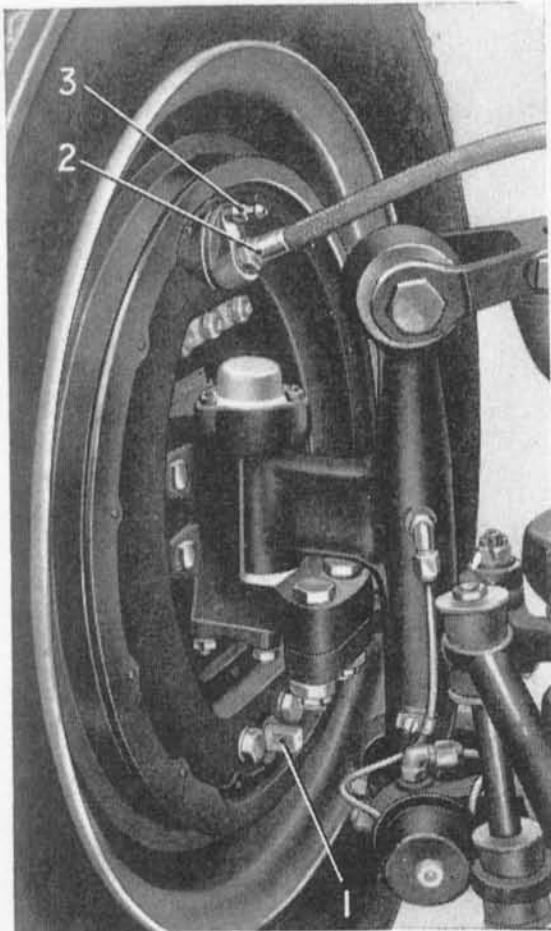
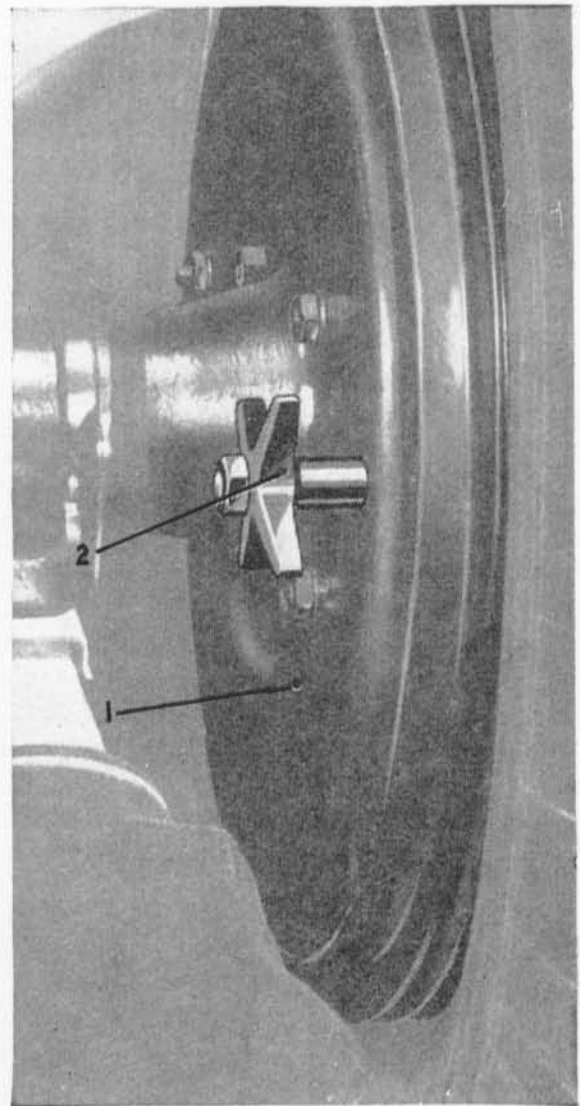
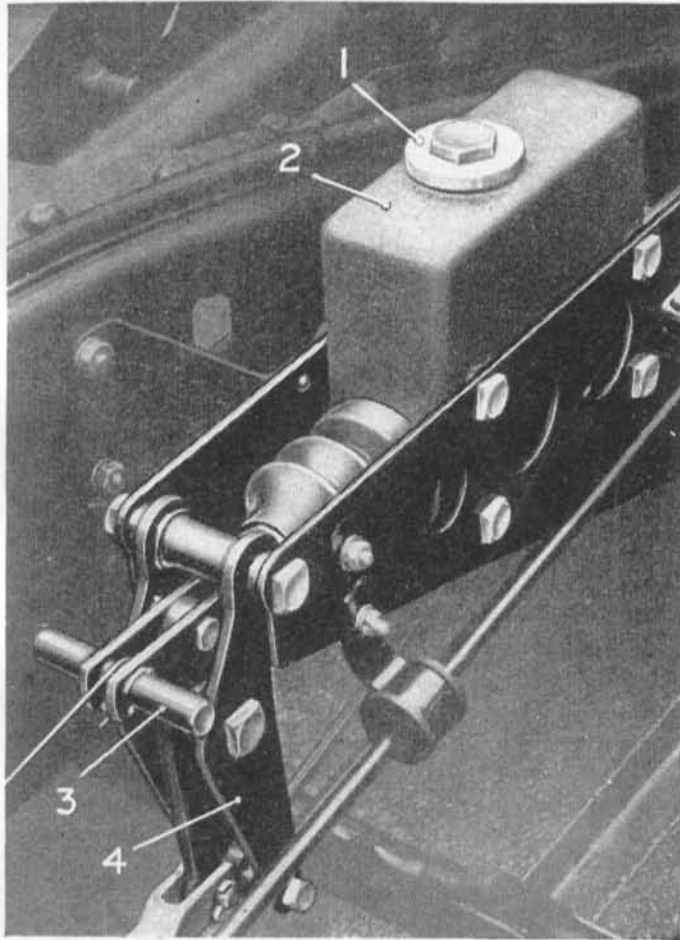

Fig. 18.—FRONT BRAKE ADJUSTMENT.
Fig. 19.—REAR BRAKE ADJUSTMENT.
Fig. 20.—THE HYDRAULIC MASTER CYLINDER AND RESERVOIR.
The method of adjustment is the same for both front and rear brakes, with the exception that a hand wheel is provided on the rear brake adjusters, while a  $\frac{1}{4}$ " B.S.F. open-ended spanner must be used on the squared end of the front brake adjusters. The rear adjusters (2, Fig. 19) are located forward of the axle tubes, and the front adjusters (1, Fig. 18) directly below the steering pivot pins.
1. Attach a clean rubber drain tube to one front brake bleeder screw (3, Fig. 18), and immerse the other end in a clean glass jar in which there is sufficient hydraulic brake fluid to submerge the end of the tube.
2. Release the bleeder screw (3) half to one turn.
3. Remove the filler plug (1, Fig. 20) and fill the reservoir integral with the master cylinder, with the recommended fluid. (See page 30.)
4. Push the joint forward until the extended pin (3) abuts against the master cylinder support brackets (4).